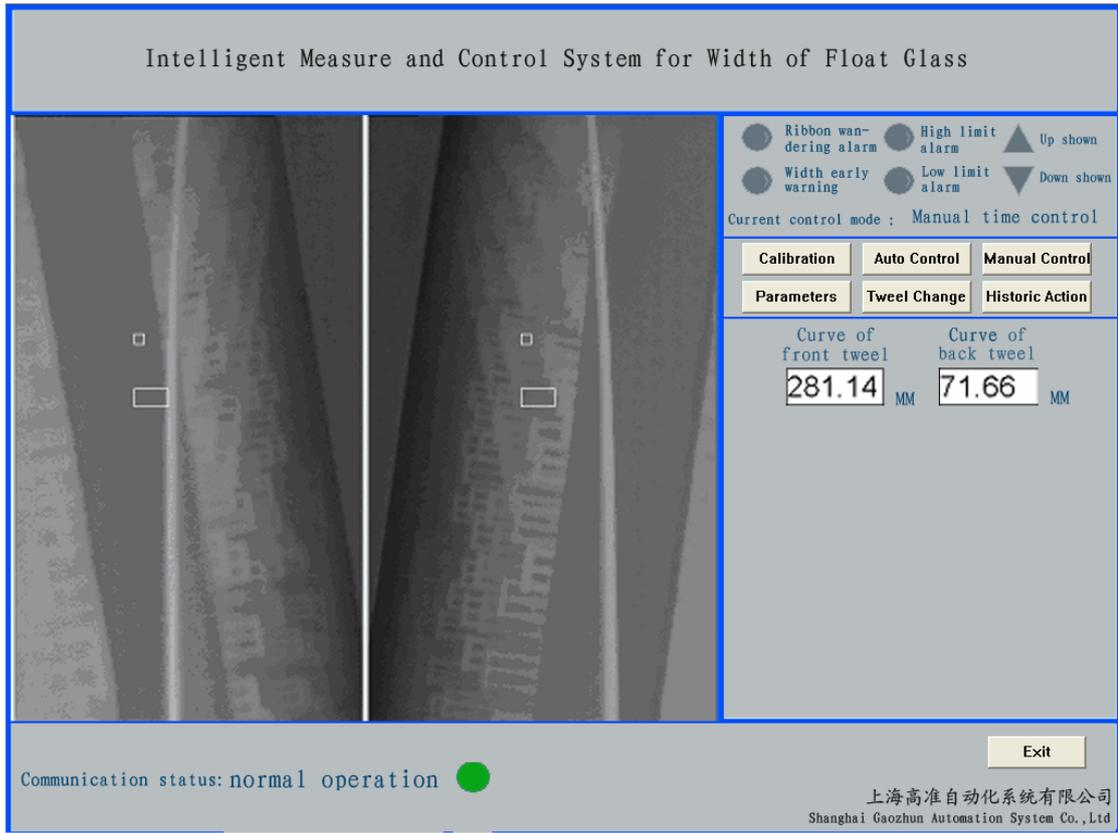

Fig. 5 Main Interface
5.1 After the computer restarted, it will enter into the Intelligent Measure and Control System for Ribbon Width of Float Glass and display its main interface. The main interface is shown as in Fig. 5.